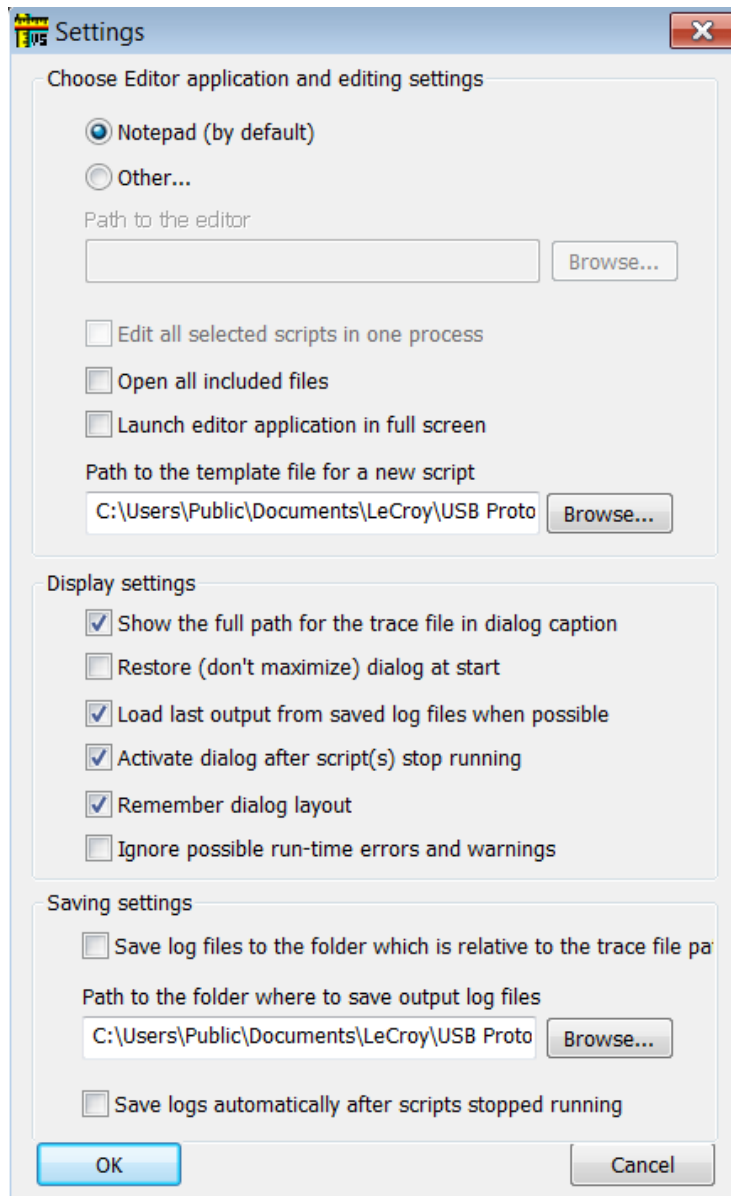

Figure 9.68: Settings Dialog
4. After choosing **Settings** from the drop-down list or the button, the Settings dialog appears (see Figure 9.68 on page 359.)